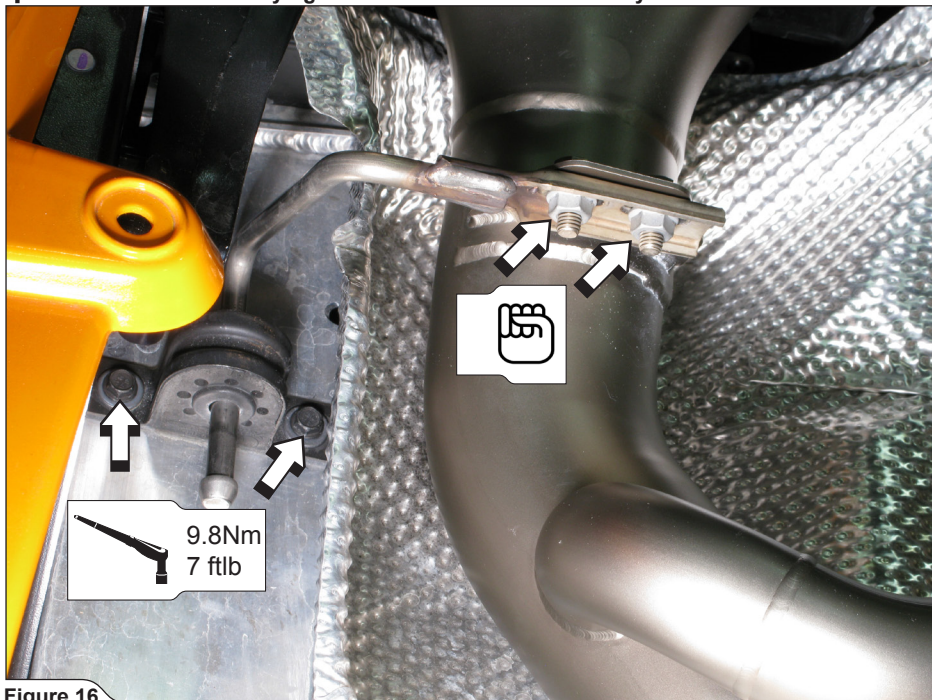

Figure 16
6. Bolt both rear muffler brackets onto the chassis and hand tighten them onto the muffler, using stock bolts, nuts and washers (Figure 16).